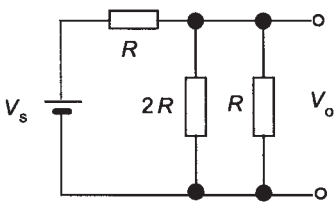

Figure 12.24 Problem 2
- 2 Determine the output voltage V_o for the circuit given in Figure 12.24.